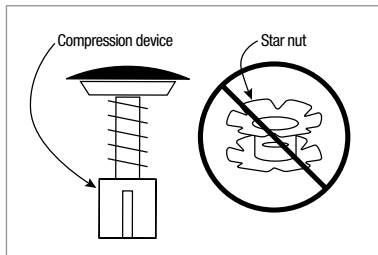

Figure 9
**▲ WARNING:** Never use a star nut with a carbon steerer tube fork (Fig. 9). Use a compression device designed for carbon steerers.